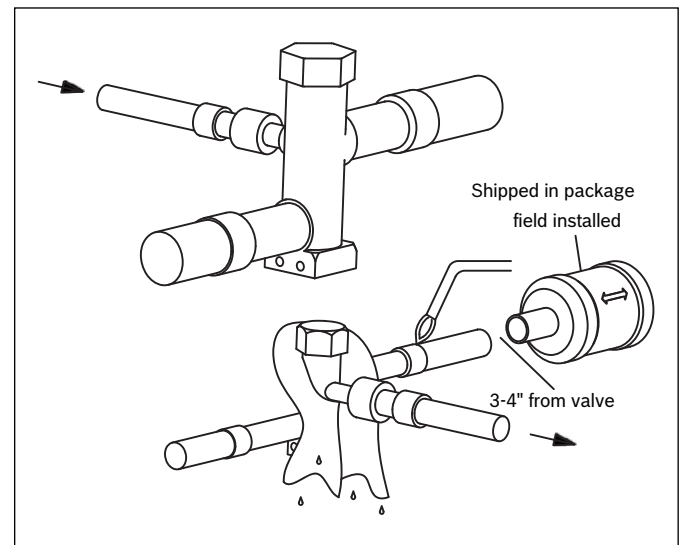

Figure 23
4. Wrap a wet rag around the valve body to avoid heat damage and continue the dry nitrogen purge Figure 23.